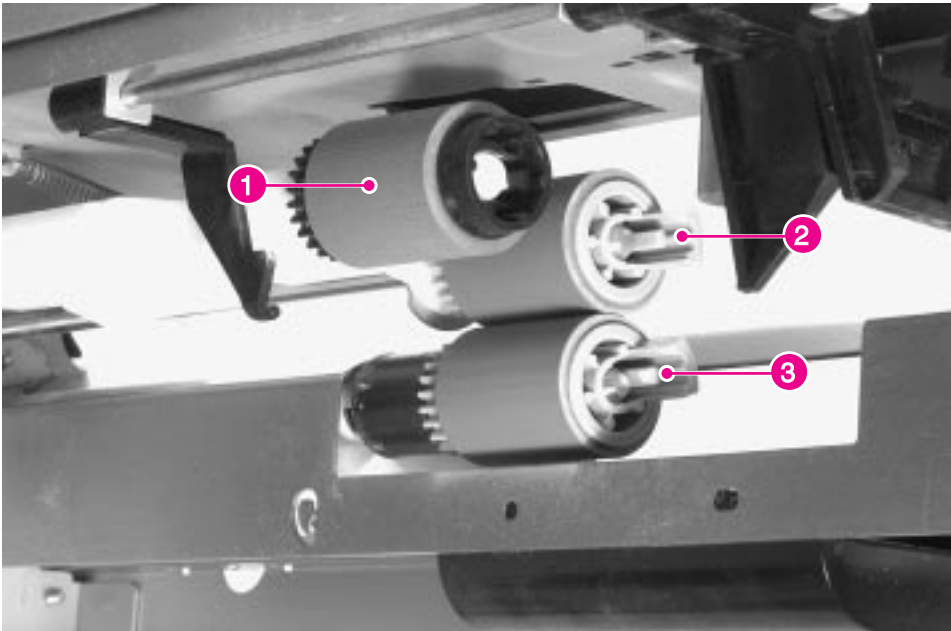

Figure 6-143 Pickup, Feed, and Separation Rollers
- Pickup Roller: figure 6-143, callout 1
- Feed Roller: figure 6-143, callout 2
- Separation Roller: figure 6-143, callout 3